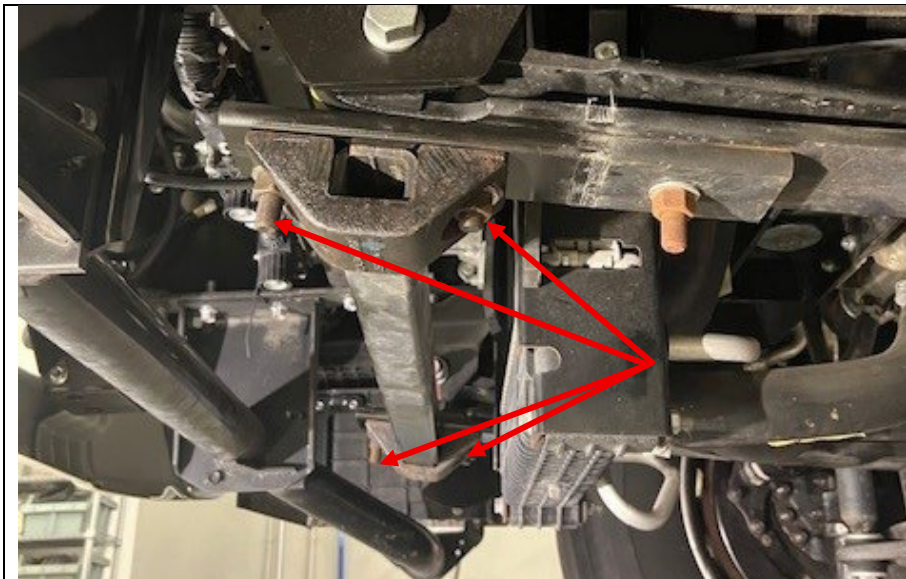

Figure 1
1. Spray a small amount of penetrating oil onto the stabilizer bar bracket mounting studs. (See Figure 1.)